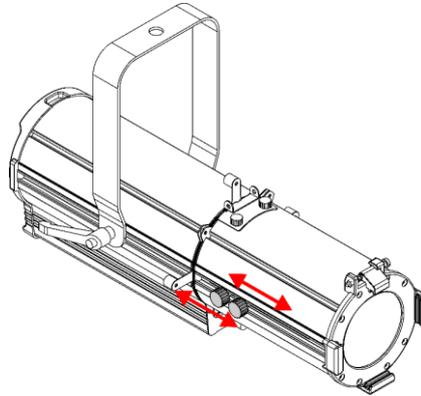

Fig. 05
- 01) Turn the **focus control (13)** and the **zoom control (12)** counterclockwise to loosen them.
- 02) Slide the controls forwards or backwards to achieve the desired beam angle (see Fig. 05).
- 03) Once the fixture is focused, turn the **focus control (13)** and the **zoom control (12)** clockwise to tighten them. Do not overtighten them.